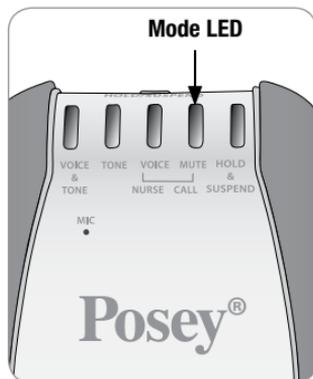

Fig. 6
The Sitter Elite has four (4) alarm modes. These allow you to select an alarm notification best suited to patient and facility needs. The LED blinks green above the mode that the alarm is set to when the alarm is on (Fig. 6, page 10). The LED above the MUTE indicator blinks yellow when the alarm is on and in "Mute" mode (Fig. 6, page 10).
- LED light blinks green to indicate selected mode is in use (Fig. 6). LED blinks yellow if the alarm mode is set to "Mute" (Fig. 6).